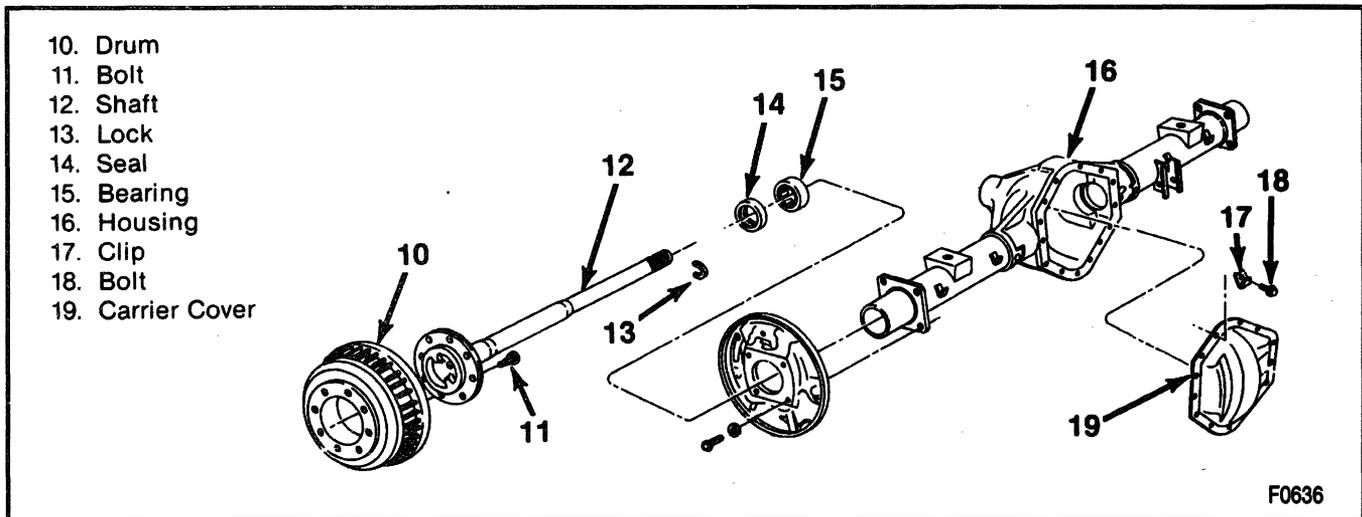

Figure 5—Axle Shaft and Housing Components
Remove or Disconnect (Figures 5 through 11)
**Install or Connect (Figures 5, 9, 12, and 13)**